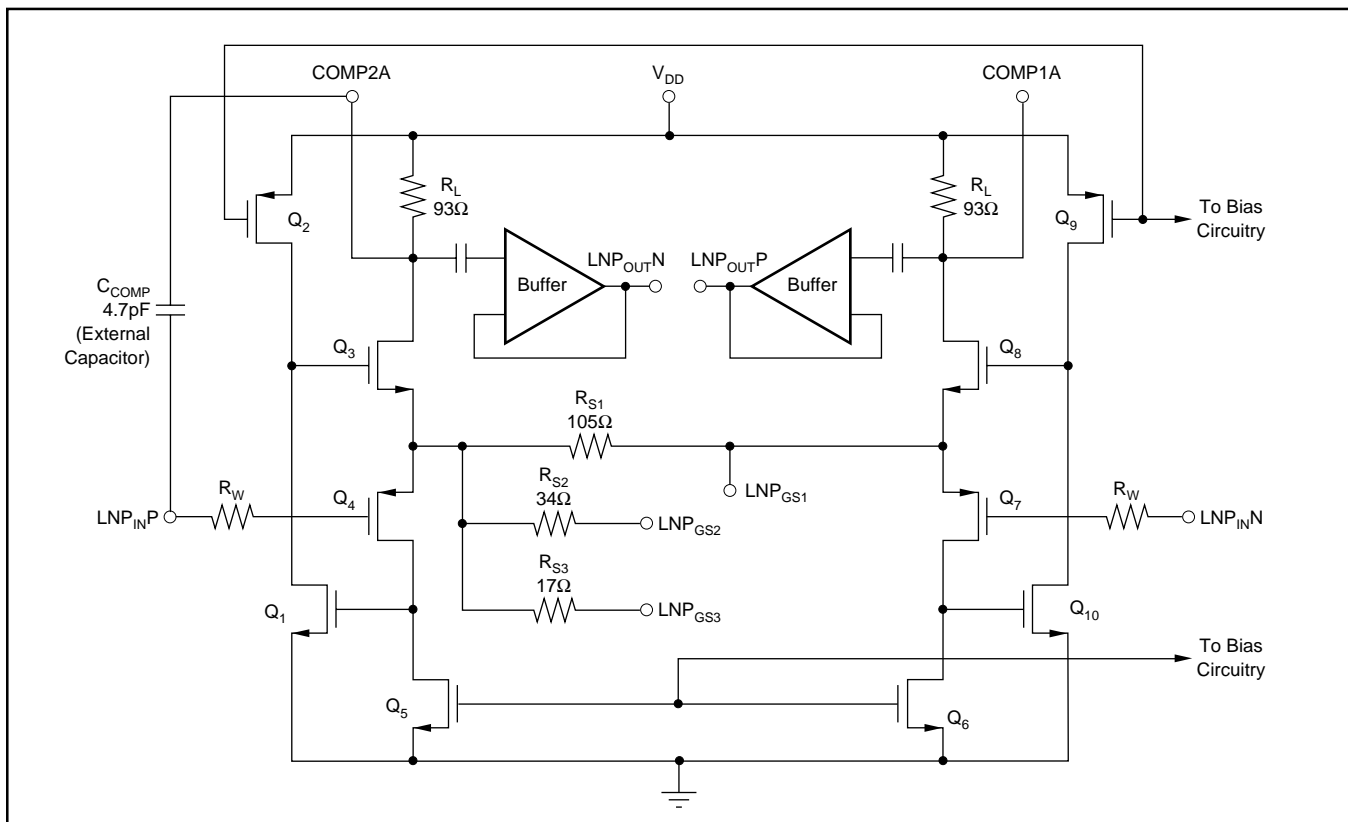
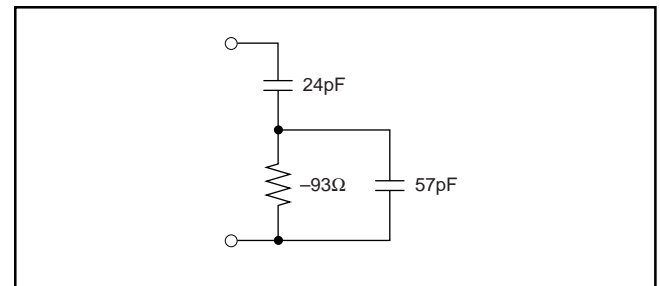

FIGURE 4. Schematic of the Low Noise Preamp (LNP).
FIGURE 11. VCA2613 Input Impedance.
The LNP is designed to achieve a low noise figure, especially when employing active termination. Figure 4 is a simplified schematic of the LNP, illustrating the differential input and output capability. The input stage employs low resistance local feedback to achieve stable low noise, low distortion performance with very high input impedance. Normally, low noise circuits exhibit high power consumption due to the large bias currents required in both input and output stages. The LNP uses a patented technique that combines the input and output stages such that they share the same bias current. Transistors Q₄ and Q₅ amplify the signal at the gate-source input of Q₄, the +IN side of the LNP. The signal is further amplified by the Q₁ and Q₂ stage, and then by the final Q₃ and R_L gain stage, which uses the same bias current as the input devices Q₄ and Q₅. Devices Q₆ through Q₁₀ play the same role for signals on the -IN side.
It is also possible to create other gain settings by connecting an external resistor between $LNPG_{S1}$ on one side, and $LNPG_{S2}$ and/or $LNPG_{S3}$ on the other. In that case, the internal resistor values shown in Figure 4 should be combined with the external resistor to calculate the effective value of R_S for use in Equation (1). The resulting expression for external resistor value is given in Equation (2).
where R_{EXT} is the externally selected resistor value needed to achieve the desired gain setting, R_{S1} is the fixed parallel resistor in Figure 4, and R_{FIX} is the effective fixed value of the remaining internal resistors: R_{S2} , R_{S3} , or $(R_{S2} \parallel R_{S3})$ depending on the pin connections.
For greatest flexibility and lowest noise, the user may wish to shape the frequency response of the LNP. The COMP1 and COMP2 pins for each channel (pins 10 and 11 for channel A, pins 26 and 27 for channel B) correspond to the drains of Q_3 and Q_8 , see Figure 4. A capacitor placed between these pins will create a single-pole low-pass response, in which the effective R of the RC time constant is approximately 186Ω .
The VCA2612 and the VCA2613 are very similar in performance in all respects, except in the area of noise performance. See Figure 4 for a schematic of the LNP. The improvement in noise performance is because the input wiring resistor (R_W) of the VCA2613, see Figure 4, has been considerably reduced compared to the VCA2612. This brings the input noise of the VCA2613 down to $1.0\text{nV}/\sqrt{\text{Hz}}$ compared to VCA2612's $1.25\text{nV}/\sqrt{\text{Hz}}$. The input impedance at the gate of either Q_4 or Q_7 can be approximated by the network shown in Figure 11. The resistive component shown in Figure 11 is negative, which gives rise to unstable behavior when the signal source resistance has both inductive and capacitive elements. It should be noted that this negative resistance is not a physical resistor, but an equivalent resistance that is a function of the devices shown in Figure 4. Normally, when an inductor and capacitor are placed in series or parallel, there is a positive resistance in the loop that prevents unstable behavior.